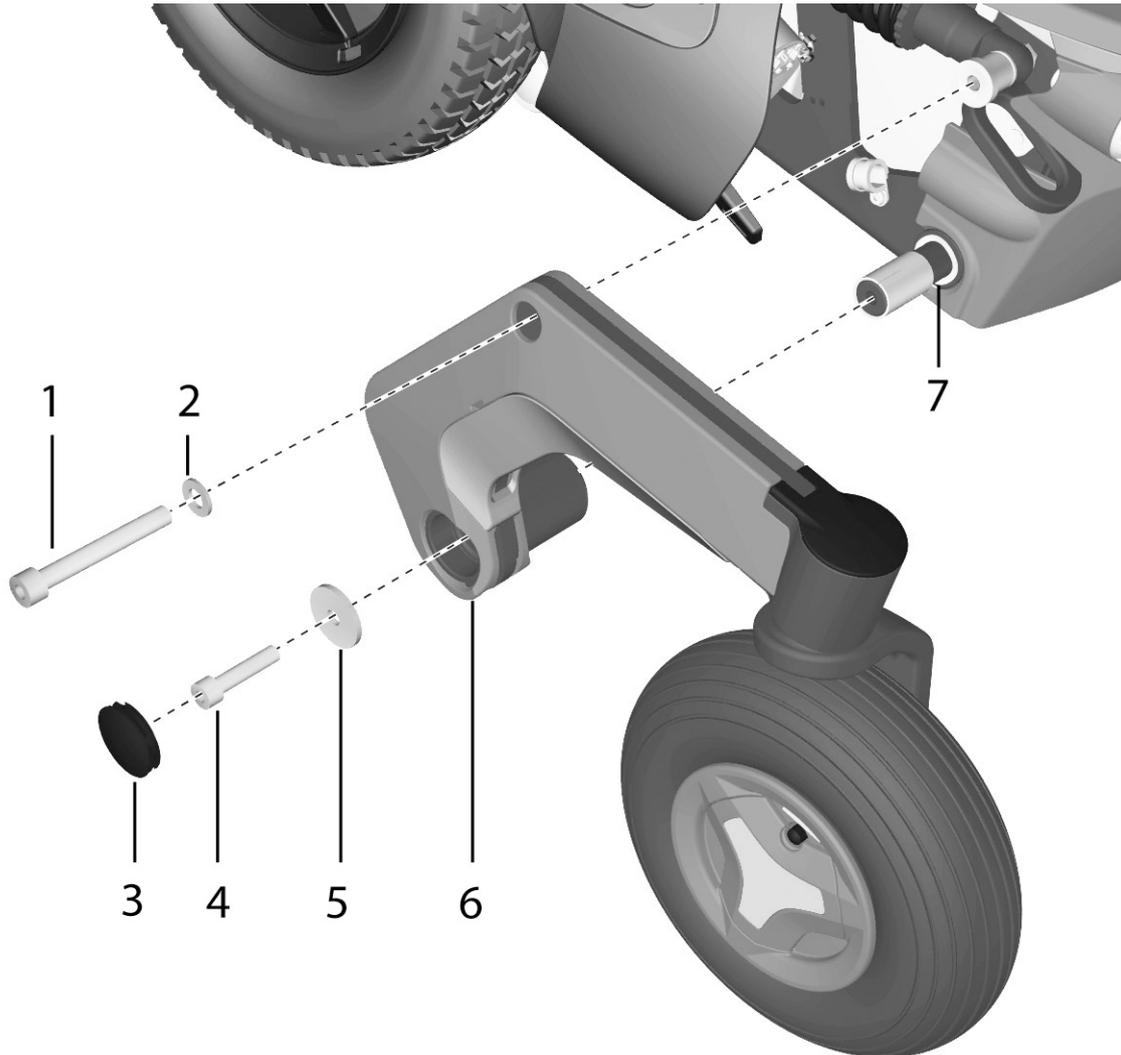

Figure 48. Fitting/removing the Rear Link Arm.
3. Remove the shock absorber from the link arm. It is fitted with one screw (1) and washer (2). See fig. 48.
4. Remove the cover (3) from the link arm by pulling it straight out (see fig.) below. If necessary, carefully lever it out using a screwdriver in the slot on the cap. See fig. 48.
5. Remove the link arm (6), it's fitted with the screw (4) and the washer (5) (see fig. below). See fig. 48.
2. Make sure the washer (7) is mounted on the axle. See fig. 48.
3. Mount the link arm (6) onto the axle with the use of hand force only. Make sure the link arm is fully seated upon the axle. See fig. 48.
4. Fit the screw (4) and the washer (5). Tighten the screw using a torque wrench. **Tightening torque: 24 Nm / 17.7 Ft/lbs** See fig. 48.
5. Fit the shock absorber to the link arm. It is fitted with one screw (1) and washer (2) Tighten the screw using a torque wrench. **Tightening torque: 24 Nm / 17.7 Ft/lbs**. See fig. 48.
6. Fit the cover (3) on to the link arm by pushing it straight in. See fig. 48.